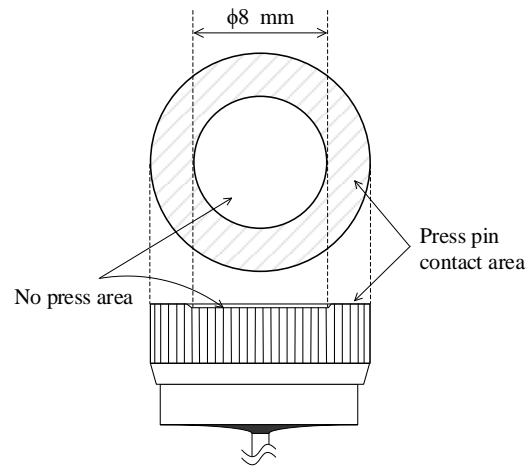

Figure 8 Press Pin Contact Area
- Press pin contact area: See Figure 8 (The press pin must not be pressed to “No press area”)